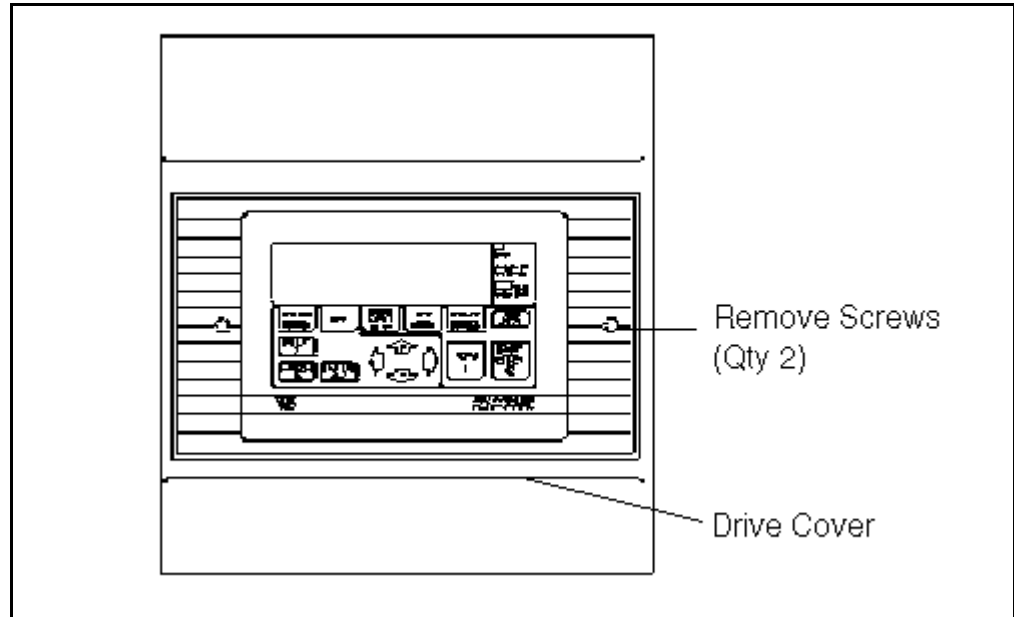

Figure 2.23 – Drive Cover Removal
Step 1. Remove the two screws from the drive cover. See figure 2.23.